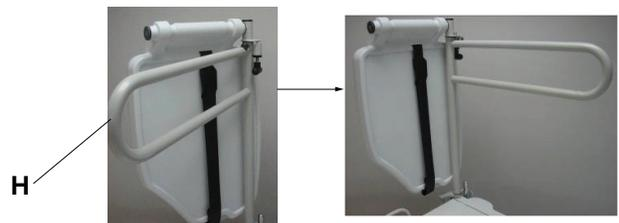

Figure 91: Swinging out the tray support pole
2. Swing the tray support pole out 90° (H) (Figure 91 on page 98).